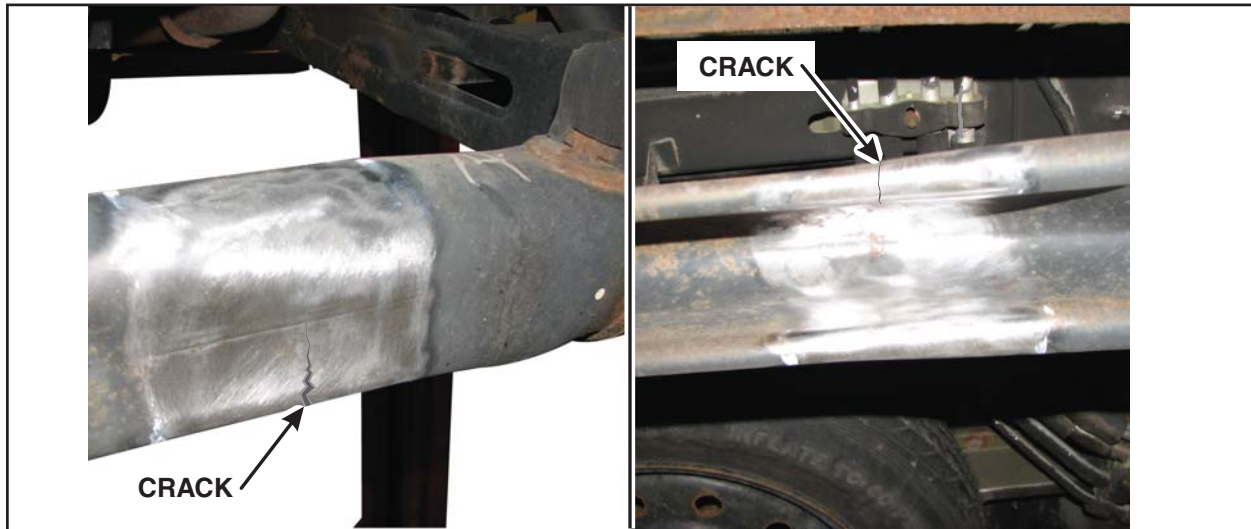

FIGURE 3
**NEW** 4. Visually inspect the entire rear axle beam for cracks or perforations (holes). See Figures 3 and 4.